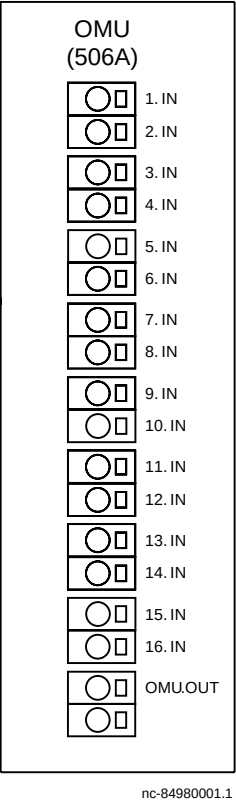

Figure 2 — OMU (506A) with 16 Ports
1. Are you to remove or install an OMU (Figure 1) or an ODU (Figure 2)?